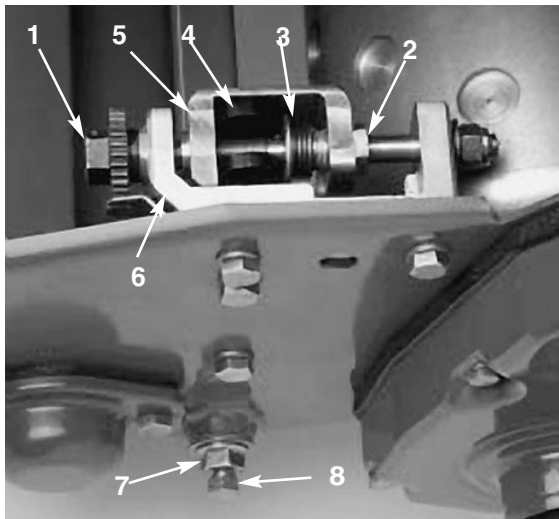

Figure 39
1. Turn the bedbar adjuster screw counter-clockwise, until the channel bottoms out in the adjuster frame (Fig. 39).
3. On each side of the machine, loosen the jam nut securing the bedbar bolt (Fig. 39).
4. Remove each bedbar bolt allowing bedbar to be pulled downward and removed from machine. Account for (2) nylon and (2) stamped steel washers on each end of bedbar (Fig. 39).